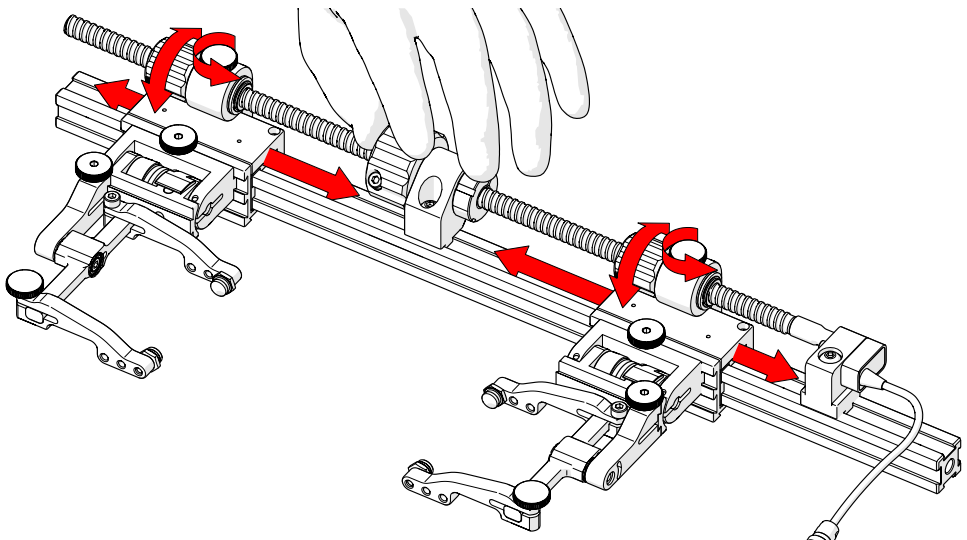

Fig. 159 - Individual slider positioning
2. Loosen the knob at the top of the slider. Rotate the small knobs allowing individual placement of the sliders (*Fig. 159*). The main knob must be held firm when rotating the small knobs for the correct movement to take place.